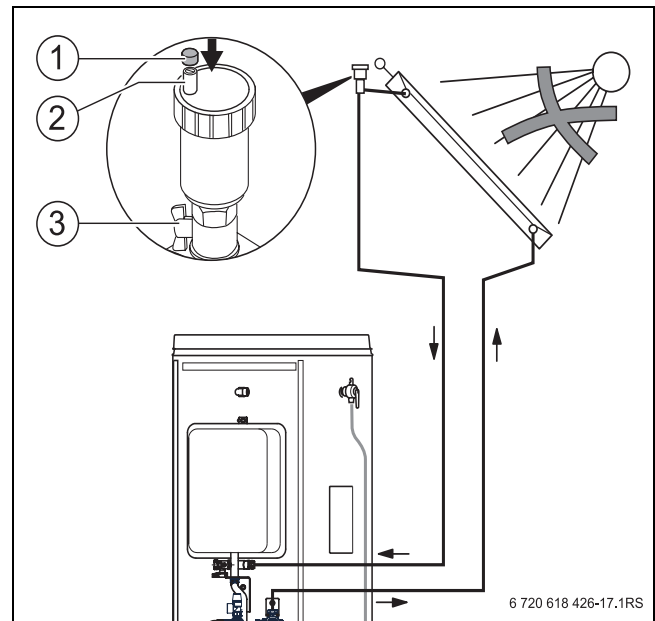

Fig. 21 Opening the air vent valve
- ▶ Close the ball valve [1] on the solar circuit pump assembly and the ball valve on the air vent valve (→ Fig. 21, [3]).